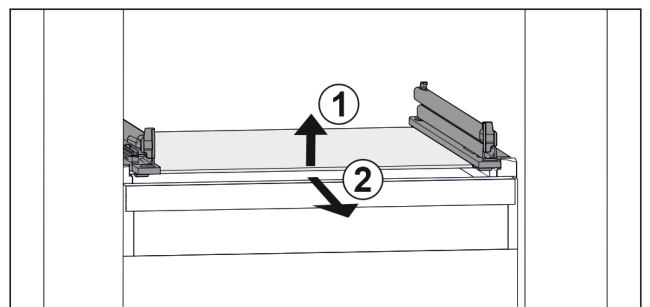

Fig. 124 Example illustration of glass shelf
- ▶ Lift glass shelf at the front. Fig. 124 (1)
- ▶ Take out glass shelf to the front. Fig. 124 (2)